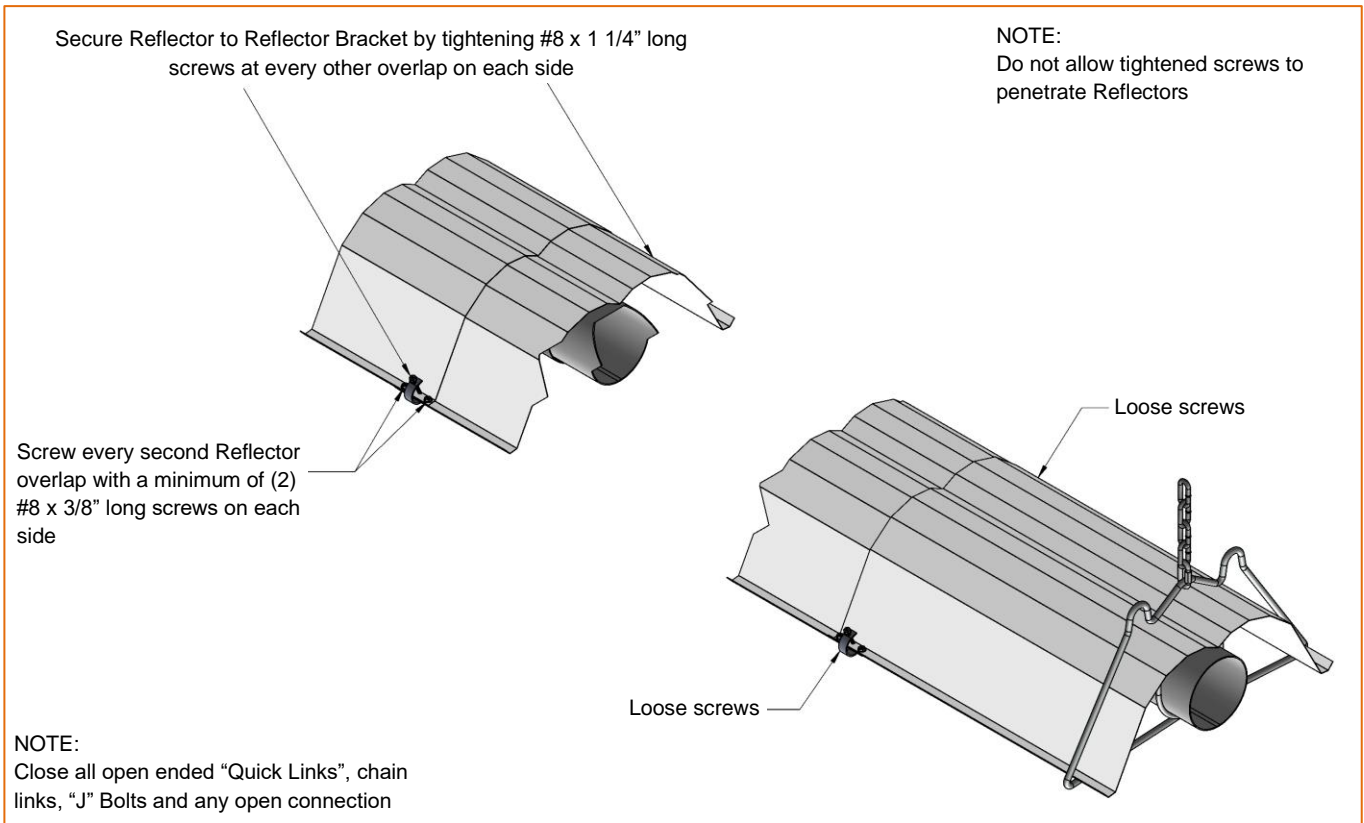

Figure 16: Reflector Supports Installation and Reflector Overlap
- Secure every second reflector overlap together with a minimum of 2 - #8 x 3/8" long screws (not supplied), and secure the reflector to the reflector bracket at this point by tightening down #8 x 1 1/4" screws supplied with reflector brackets (Figure 16). The remaining reflector overlap joints and reflector brackets are left loose to accommodate system movement.